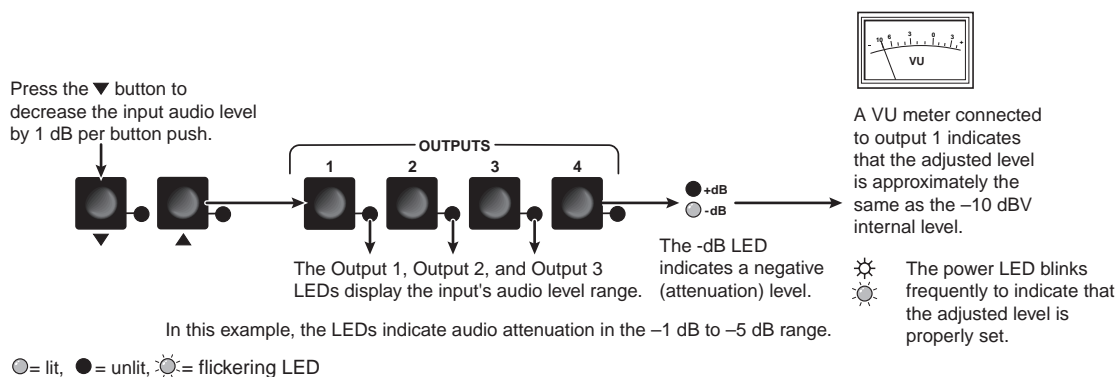

Figure 3-34 — Adjust the input audio level
3. Press and release the ▼ button once to decrease the audio level (figure 3-34). The ▼ LED flashes each time the button is pressed.
Press and release the ▼ button several more times to continue to decrease the audio level (figure 3-34). Note the output LED, +dB LED, and -dB LED changes that occur each time the ▼ button is pressed and released.
Figure 3-34 shows the result of pressing the ▼ button a total of 9 times to change the value to -1 dB. Note that the +dB LED has turned off and that the -dB LED is on to indicate a negative level.